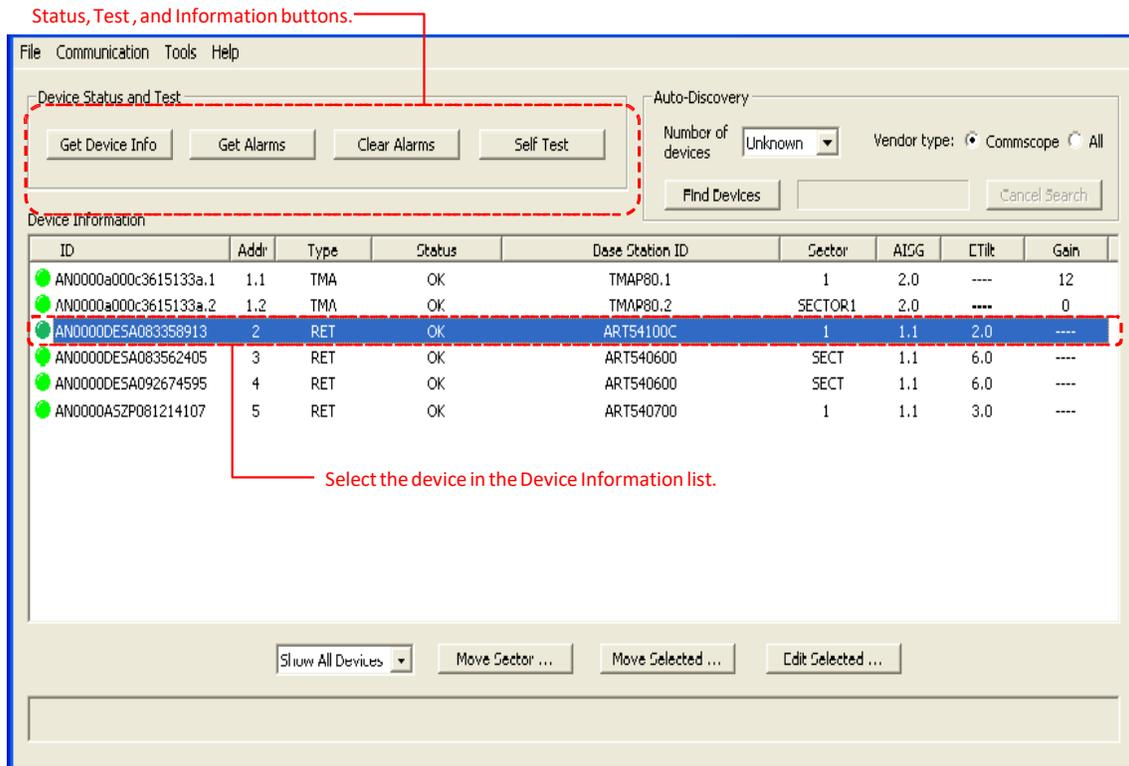

Figure 10-1. Device Status and Test Options.
The ATC Lite program allows users to obtain device information (includes hardware and software version), get alarm status or clear alarms for any known device, or run a movement self-test on any addressed device. These options are displayed as four buttons located in the **Device Status and Test** section of the main screen (Figure 10-1).
1. To query a device for its alarm status, first click on the device in the **Device Information** list (Figure 10-1).
2. Now that the device has been selected, click **Get Alarms** to retrieve the current alarm status for that device (Figure 10-1).
After examining the alarms status results, any alarms found may be cleared using the **Clear Alarms** button (Figure 10-1).
1. To perform a self test on a device, click on the device in the **Device Information** list (Figure 10-1).
2. Click **Self Test** to initiate movement (Figure 10-1).